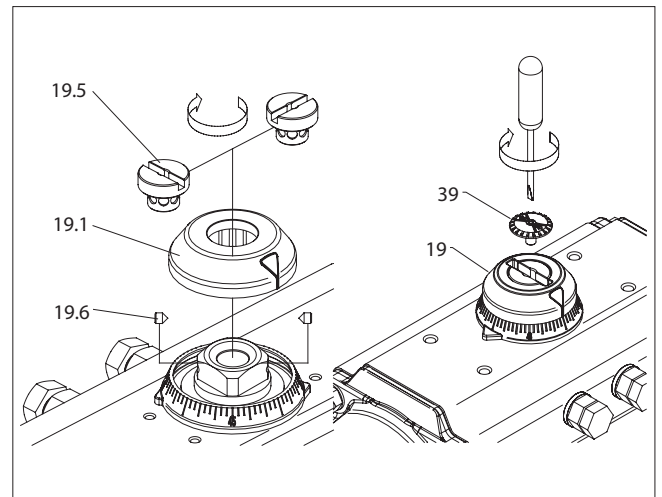
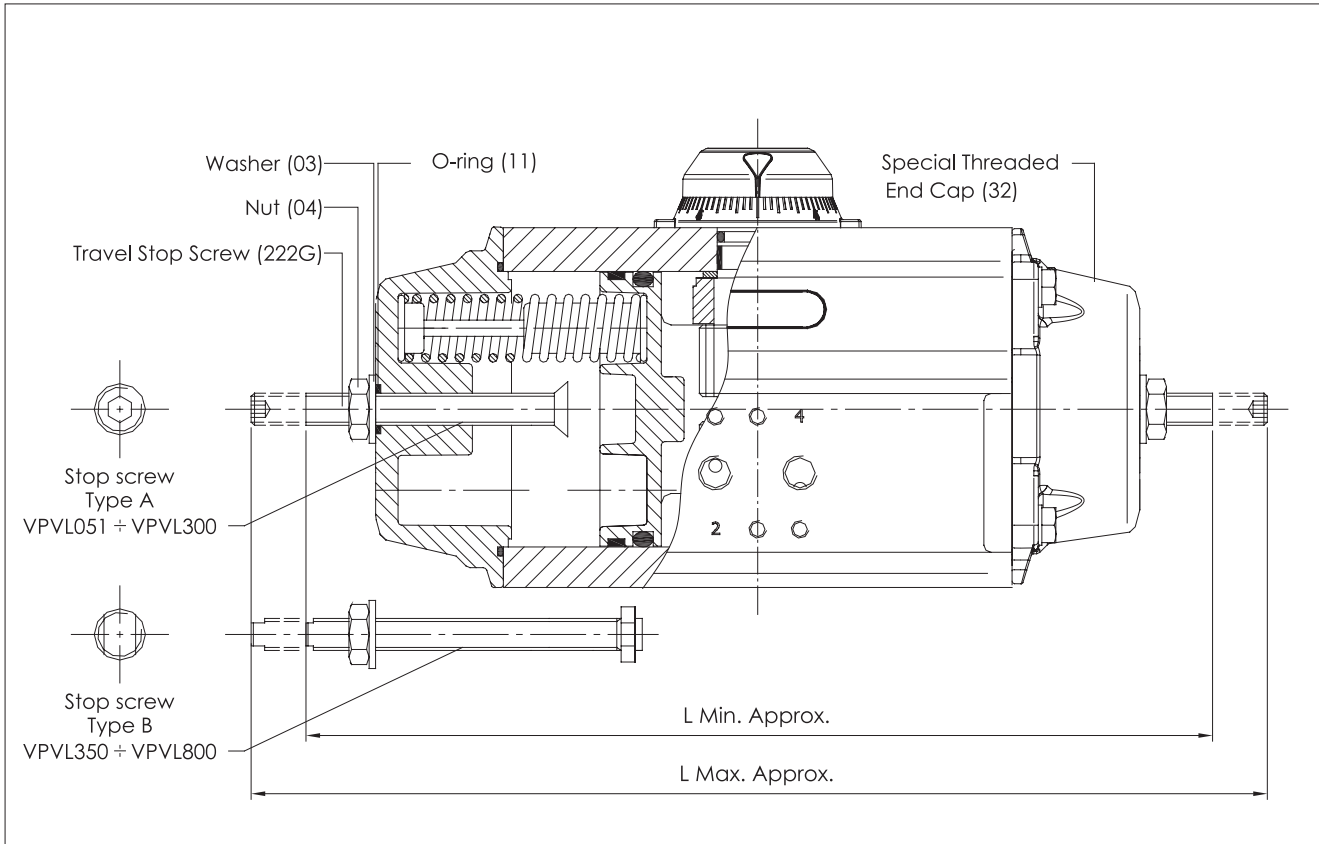

Figure 18.
Figure 19.
- B. If the valve is not in the correct clockwise position, turn the right stop adjustment screw (2) IN to reduce actuator travel, or OUT to increase actuator travel.
- C. When the correct clockwise position is obtained, hold the adjusting screw (2) stationary while tightening the lock nut (4).
- E. If the valve is not in the correct counter-clockwise position, turn the left stop adjustment screw (2) IN to reduce actuator travel, or OUT to increase actuator travel.
- F. When the correct counter-clockwise position is obtained, hold the adjusting screw (2) stationary while tightening the lock nut (4).
**6. Position Indicator (19, 39) Assembly. (Figure 18):**
- A. Fit position indicator (19) on the shaft (60), verifying that it indicates the correct actuator position.
- B. Tighten cap screw (39) to secure the position indicator.
**7. Setting 100% Adjustable Stop (If applicable). (Figure 19):**